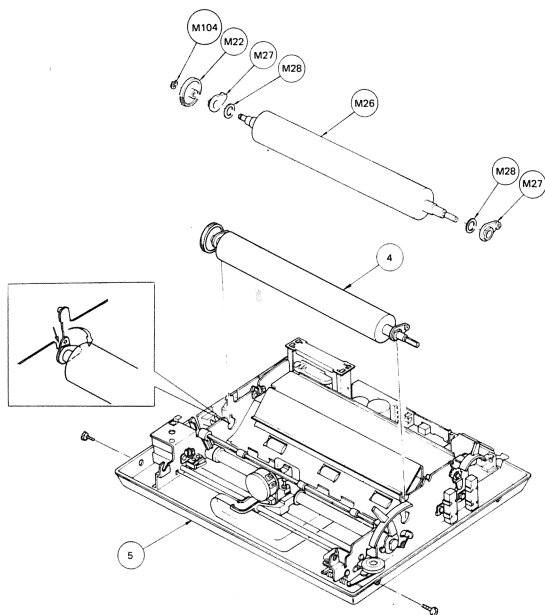

Figure 4
Remove Platen by rotating upward both tips of the Platen Support (M27) from the Side Frame projections and lifting the Platen Assembly (4) up and out of Printer. See Figure 4.